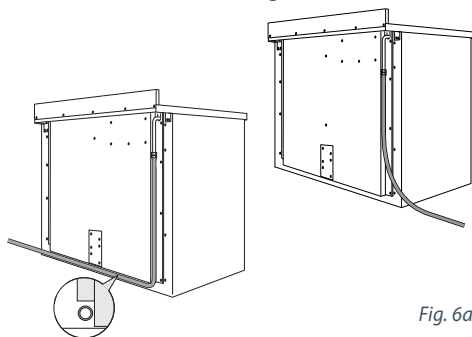

Fig. 6a
- 2 Connect the gas supply to the gas inlet at the rear of the cooker. If the pipe has to cross the cooker, it must be positioned under the protected area of the cooker (see Fig 6a)